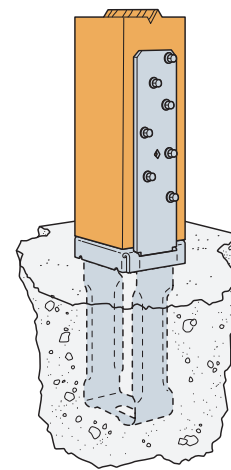

Figure 1 — Post Base with 1" Standoff
- For post bases with 1" standoffs, full bearing on concrete is required. Standoffs shall bear on top of concrete and not be embedded into wet concrete. A higher download may be achieved by solidly packing grout in the 1" standoff area before installation of the post. Allowable download shall be based on the capacity of the post, grout or concrete according to the code. (Figure 1)